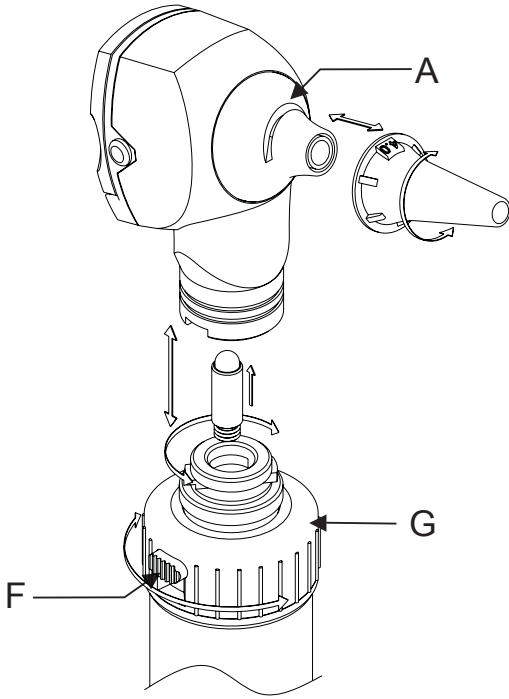

Fig.1
Attach the otoscope head to the handle by bayonet locking system, it is necessary to hold the battery handle and head in each hand and match the bayonet grooves on both the head and handle, push the head down and turn the head clock wise as in Fig.1.
The Otoscope may only be inserted into the auditory canal when a disposable (grey) or reusable (black) tip is fitted. Push the tip onto the instrument so that the internal projection engages in the slit (A) as in Fig.1. Twist to the right to lock. Do not reuse the disposable speculum, because may cause patient-to-patient contamination.